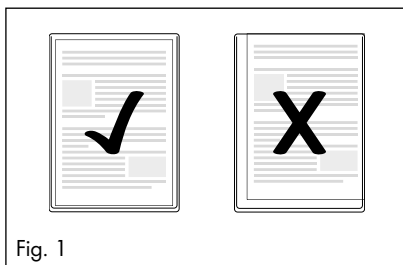

Fig. 1
- Ensure that all edges of the document have at least two millimetres of space to the edges of the laminating pouch, as shown in Fig. 1.
- ▶ Ensure that all edges of the document have at least two millimetres of space to the edges of the laminating pouch, as shown in Fig. 1.